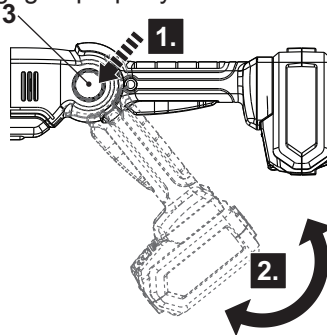

Fig. 10
1. Press the release button (3) and hold it in position (Fig. 10, step 1).
2. Adjust the handle to required position (step 2) and then release the button (3).